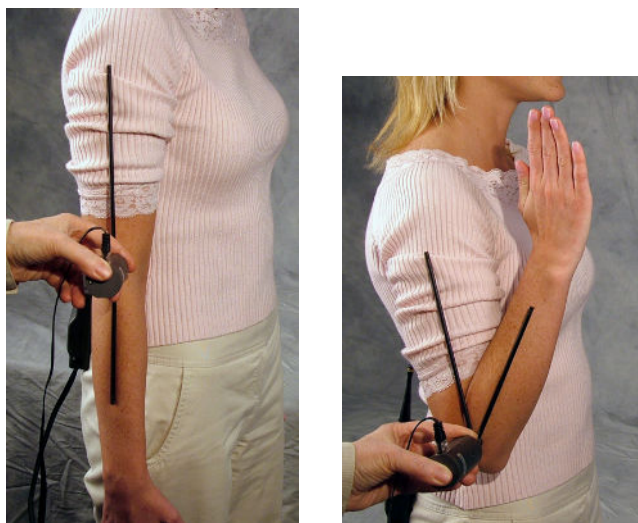

Figure 4-2. Example of Initial & Final Goniometer ROM Positions
- Step 2. Instruct the client to place his/her extremity in the initial position (Figure 4-2).
- Step 3. Position the center of the top of the Goniometer in line with the joint and the Goniometer arms along the extremity being measured (Figure 4-2).
- Step 5. Instruct the client to place his/her extremity in the final position and rotate the Goniometer arms as needed (Figure 4-2).